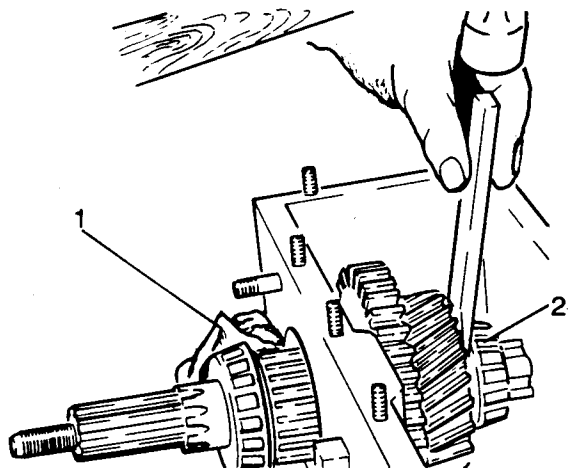

Fig H2.19
(9) Refer to Fig H2.19. Fit rags (1) in position so as to protect the bearing housing during the following operation.
(10) Use a mild steel chisel to remove the output shaft front bearing (2).